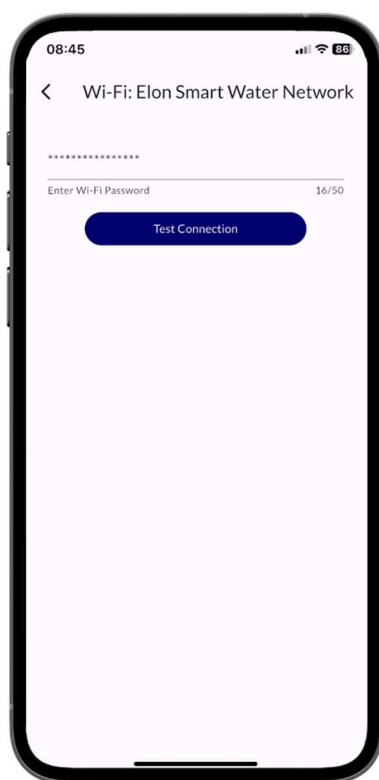

Figure A4 Enter Wi-Fi password
12. The application will ask for a password for the network you selected (**Figure A4**).